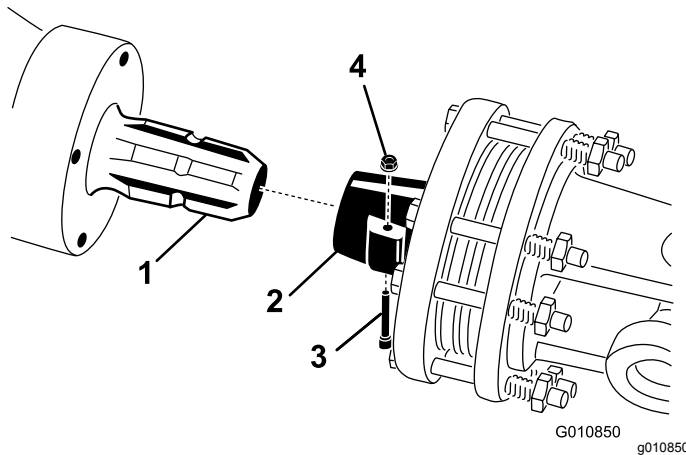

Figure 23
1. Remove the pin and nut from the PTO shaft (Figure 23).
2. Connect the clutch end of the PTO shaft to the aerator gearbox input shaft with pin and nut previously removed (Figure 23). The pin can be inserted only one way.